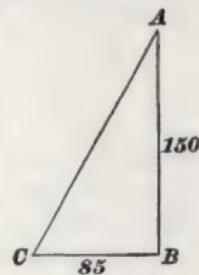

FIG. 29.
**SOLUTION.**—In Fig. 29,  $A B$  represents the steeple, 150 feet high;  $C$  a stake 85 feet from the foot of the steeple, and  $AC$  the rope. Here we have a right triangle right-angled at  $B$ , and  $AC$  is the hypotenuse. The square of  $AB = 150^2 = 22,500$ ; of  $CB$ ,  $85^2 = 7,225$ .  $22,500 + 7,225 = 29,725$ ;  $\sqrt{29,725} = 172.4$  ft., nearly. Ans.